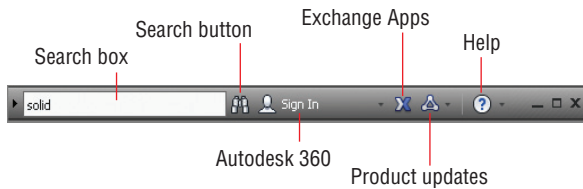

FIGURE 1.15 InfoCenter
12. Take a look at the InfoCenter at the top right of the screen (see Figure 1.15). This is where you sign in to Autodesk 360 and the larger user community. Click in the search field and type **solid**.